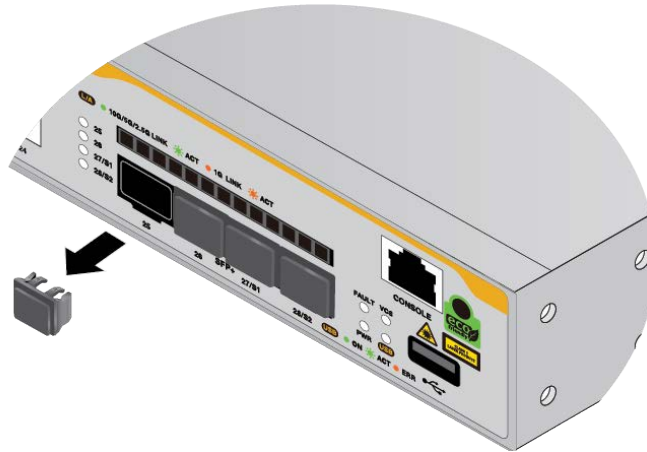

Figure 43. Removing the Dust Plug from an SFP+ Port
1. If the transceiver port has a dust plug, remove it. Refer to Figure 43.